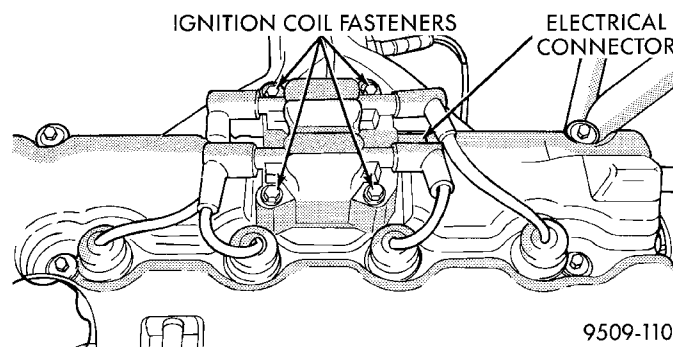

Fig. 20 Ignition Coil Pack
(1) Remove ignition coil pack (Fig. 20).